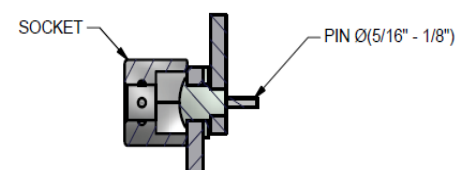

Figure 3 Socket and pin location
- 2) Place a socket around the front side of the rivet. (NOTE: The internal diameter of the socket must be larger than the rivet head. Try 11/16" or larger.) Place a steel pin (smaller than the diameter of the rivet shaft) on the ground off rivet. (See Figure 3)